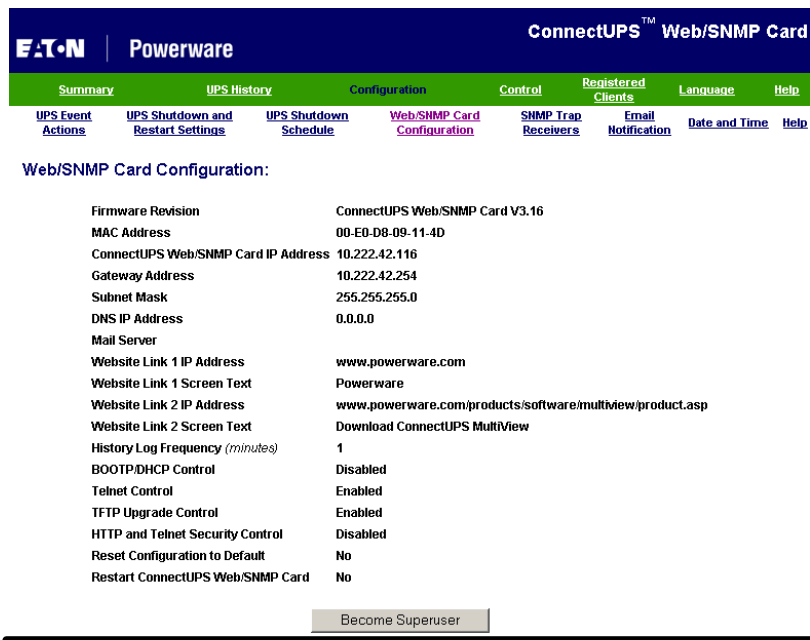

Figure 3. Sample ConnectUPS Web/SNMP Card Configuration Page
- 2. Select **Configuration** from the menu at the top of the home page, then **Web/SNMP Card Configuration** to set the card parameters (see Figure 3).